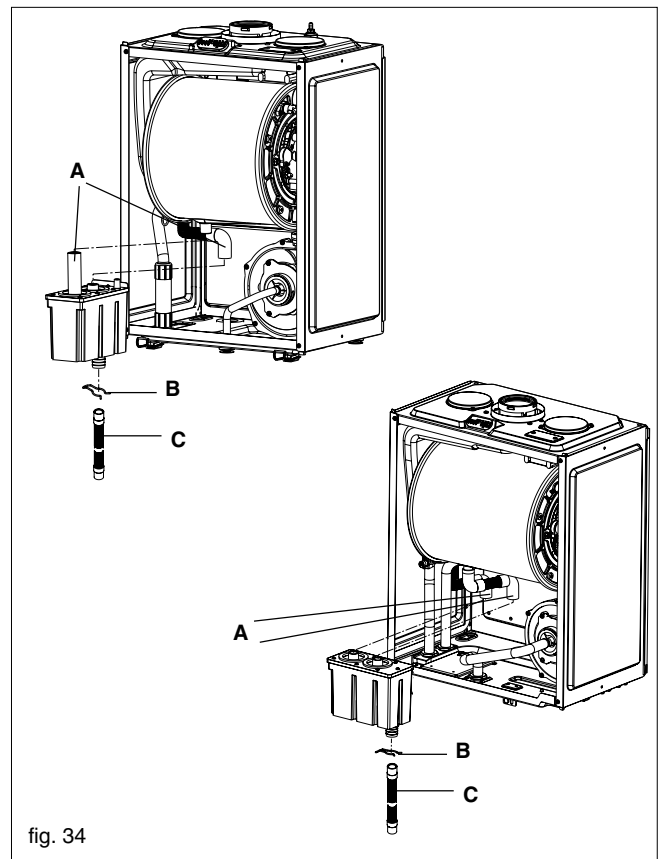

fig. 34
6.19 CONDENSE TRAP REMOVAL (fig. 34)